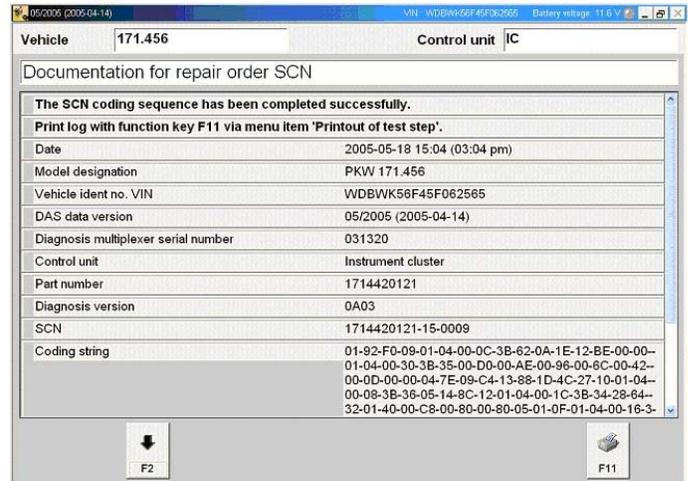

Figure 13
- The SCN Coding process is now complete when this documentation page appears (Figure 13). Press 'F11' to get a printout for your records.